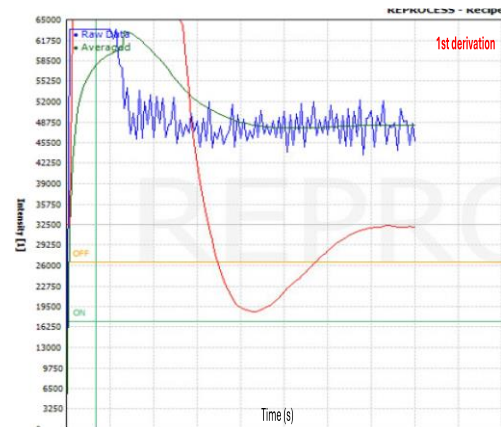

Figure 4- EPD on Siconnex
- End-point detection metrology (Figure 4) was explored over one week experiment.